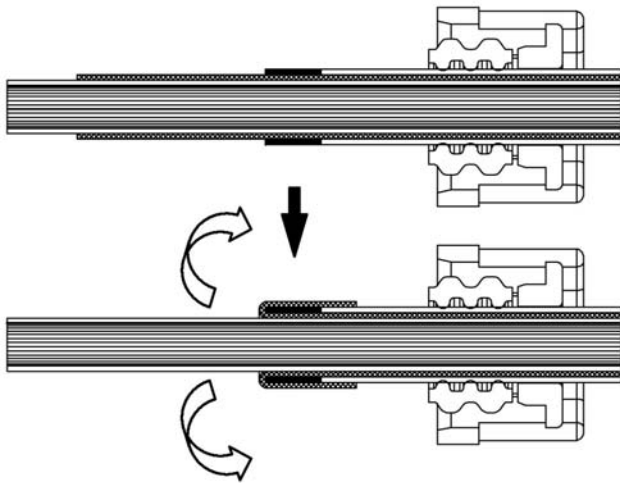

Figure 6
5. Fold the braided cable shield back over the inner ferrule as shown in Figure 6.